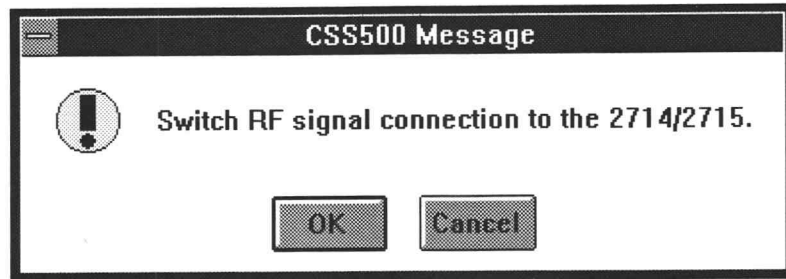

Figure 5-12. The message box that prompts you to connect the input signal to the 271X.
2. From the Measure menu, choose Current Selection. First, you are prompted to connect the 271X as shown in Figure 5-12. If necessary, connect the input signal to the 271X, then choose the OK command button to continue. (The Cancel command button will stop the measurement and return you to the spreadsheet.)